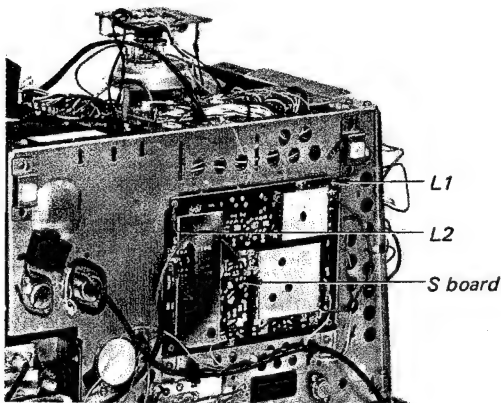

Fig. 2-17.
2. Remove the two screws labeled L1~2 in Fig. 2-17.